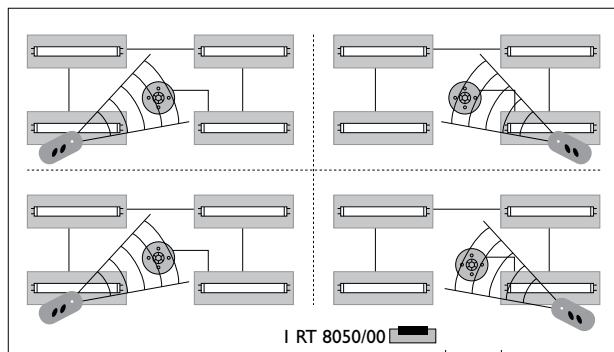

Figure 1 Possible application
- Up to seven IRT 8010/00 transmitters (group address A-G) can be used in larger rooms together with one (or more) IRT 8050/00 transmitters at the entrances, to switch the lighting circuits individually, see figure 1.